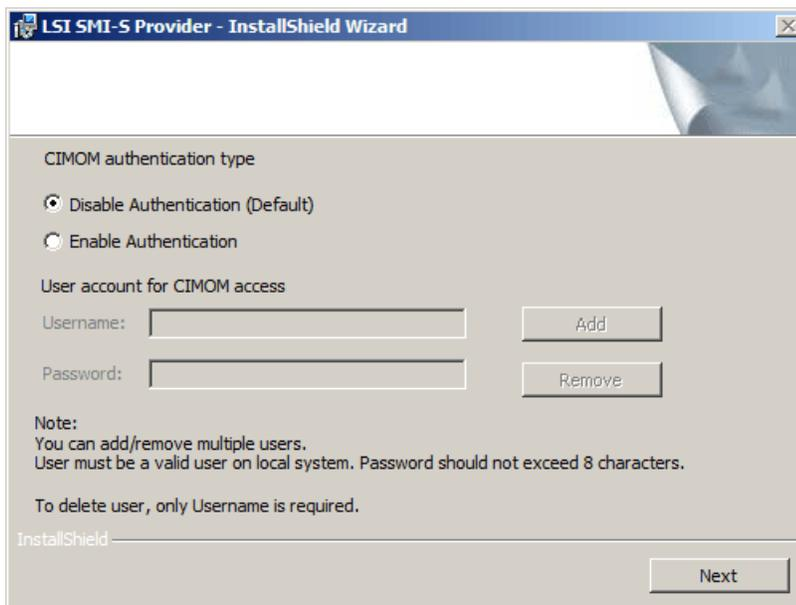

Figure 9-8 Select CIMOM authentication type
- After you have added the storage arrays and closed the Notepad, the installation program continues normally. Follow the instructions and prompts on the screen. The installation prompts you to choose the CIMOM authentication type (Figure 9-8). The default is Disable Authentication, which allows unrestricted access to the CIMOM server. To restrict access to the CIMOM server to authorized users only, select Enable Authentication, then follow the instructions and prompts to enter the username and password of the authorized users of the CIMOM server.